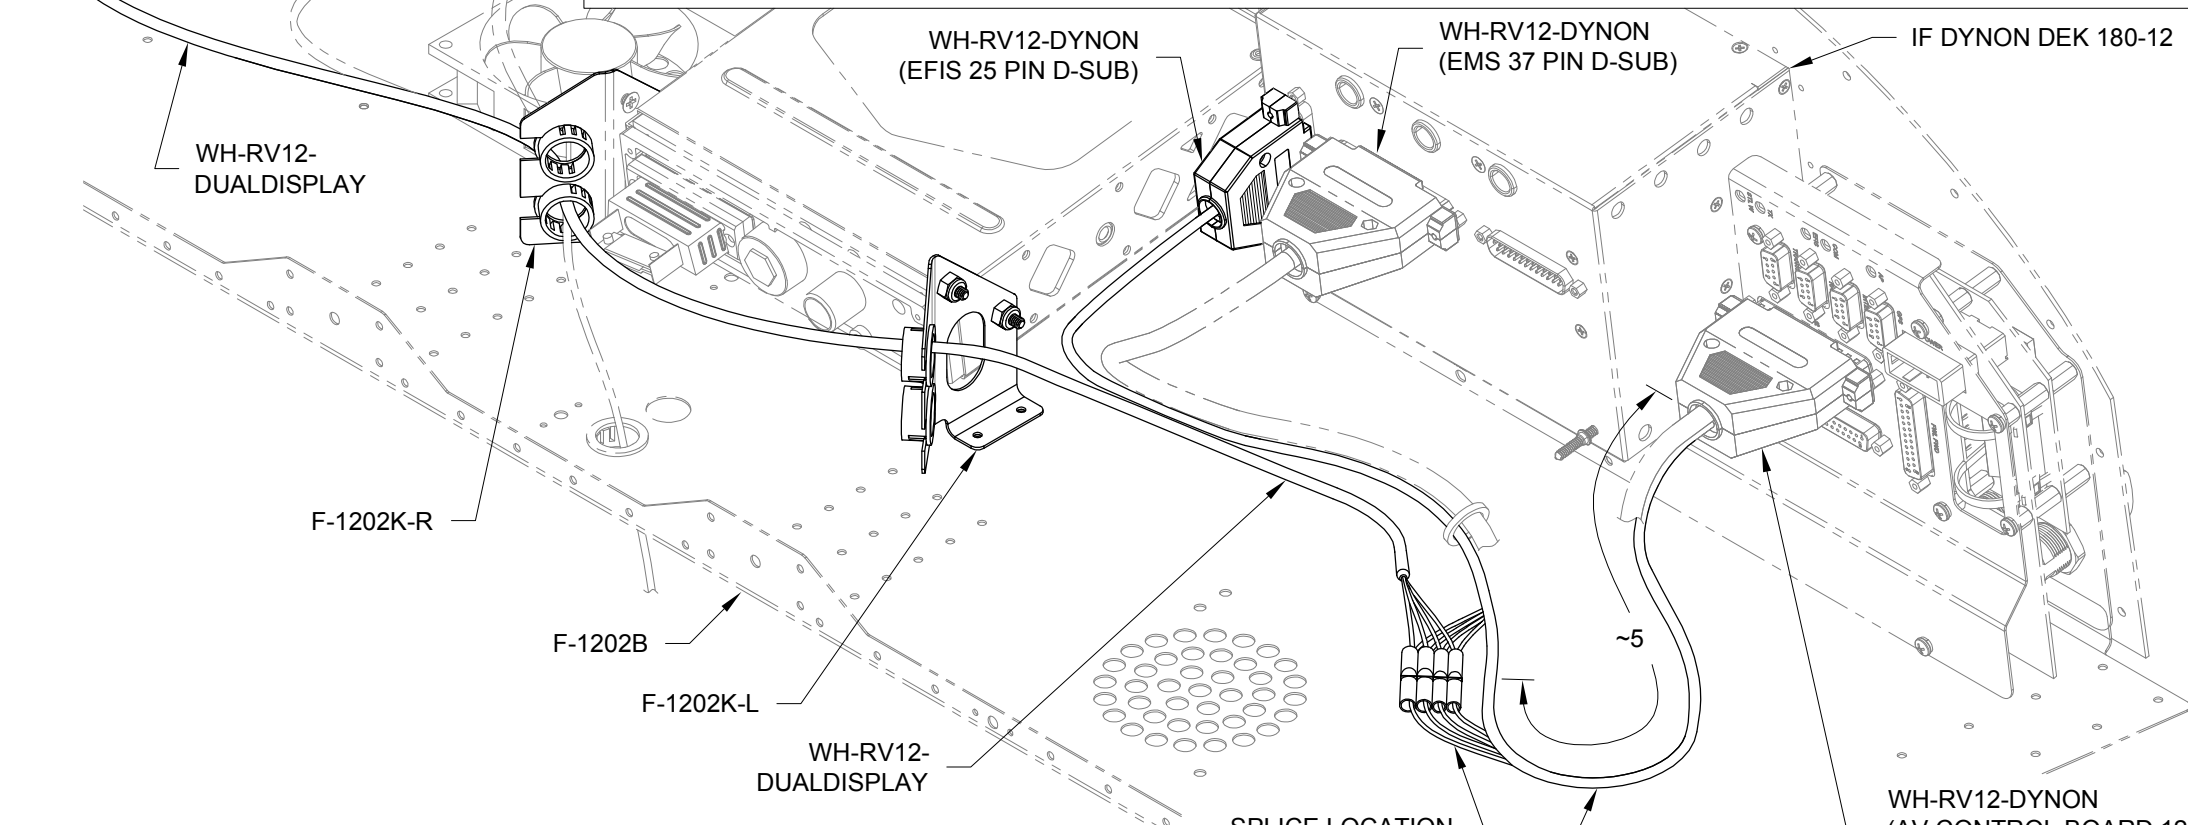

FIGURE 1: EFIS WIRING HARNESS INSTALLATION
Step 1: Center the DYNON 100422-000 D-100 Series Mounting Tray behind the large cutout in the F-1202UD100 Instrument Panel Right EFIS as shown in Figure 1 and clamp it in place. Match-Drill #40 the holes in the instrument panel into the mounting tray. Cleco each hole after it is drilled.